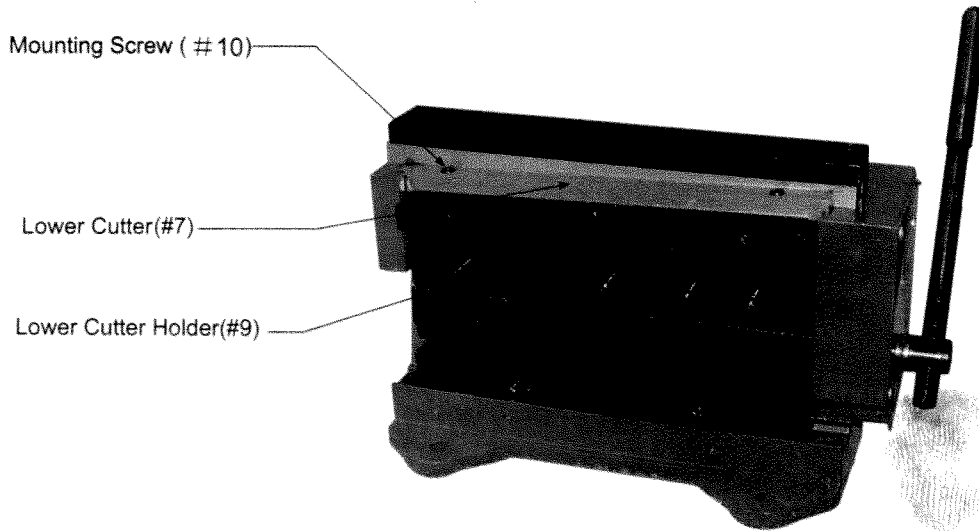

Figure7 - Removing the Lower Cutter
Step 2: Loosen and remove the two MOUNTING SCREWS (#10) for the LOWER CUTTER as shown in Figure 7.